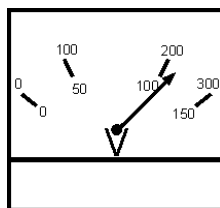
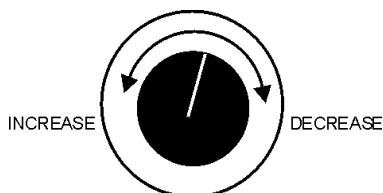

Figure 30. Voltage Meter (Volts)
Figure 31. Voltage Adjust Control Knob
11. The generator's voltage meter (Figure 30) displays the 120 VAC in **VOLTS**. If the voltage is not within the specified frequency tolerance, use the voltage adjustment control knob (Figure 31) to increase or decrease the desired voltage.